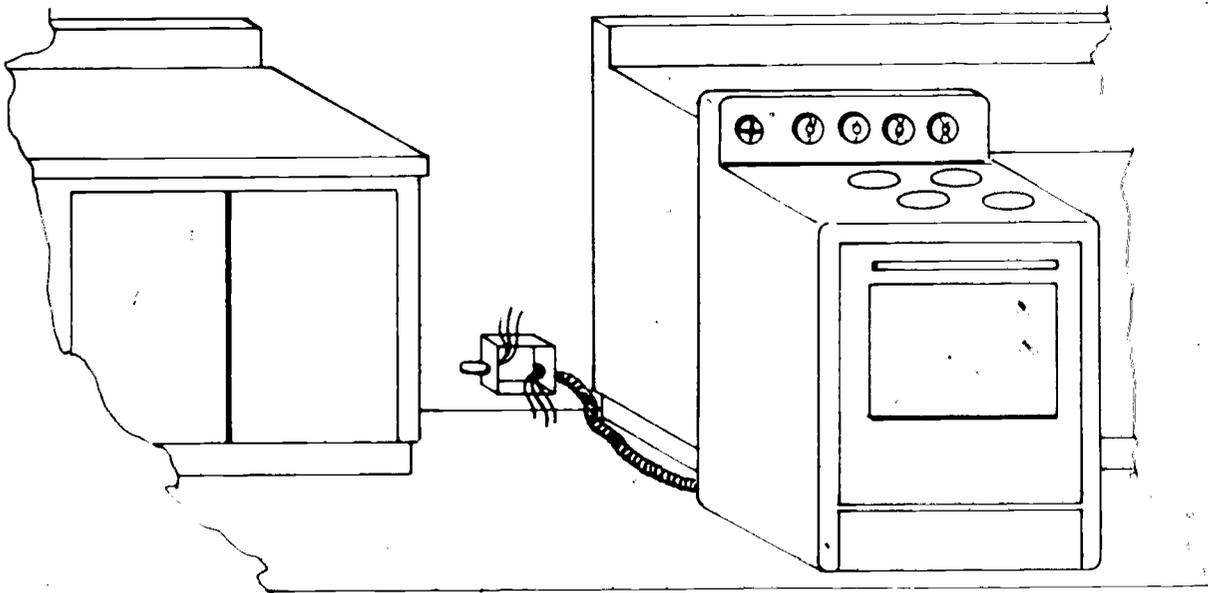

FIGURE 1
- F. Connect appliance pigtail to box (Figure 1)